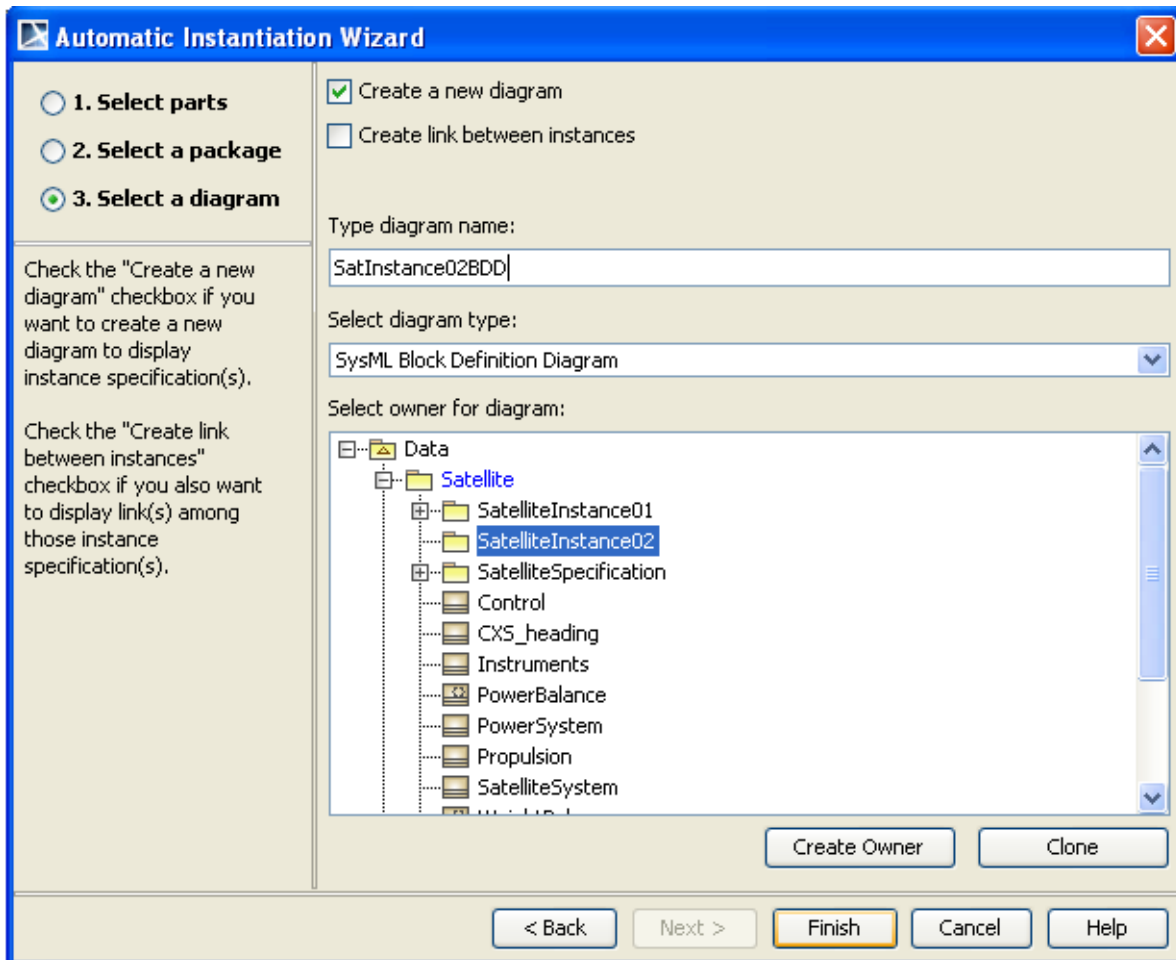

Figure 40 -- Automatic Instantiation Wizard - Step 3. Select a diagram
4. In **Step 3 (Select a diagram)**, type: **SatInstance02BDD** in the **Type diagram name** box, and select **BDD** as the diagram type (Figure 40).